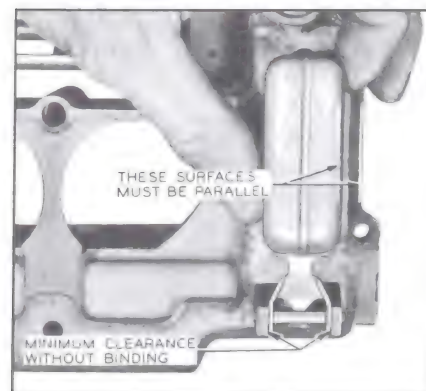

Figure 3-81—Float Alignment
9. Align Float - Sight down side of float to determine if side is parallel with outer edge of air horn. If adjustment is necessary, bend float lever by applying pressure to end of float with fingers while supporting float lever with thumb. See Figure 3-81.